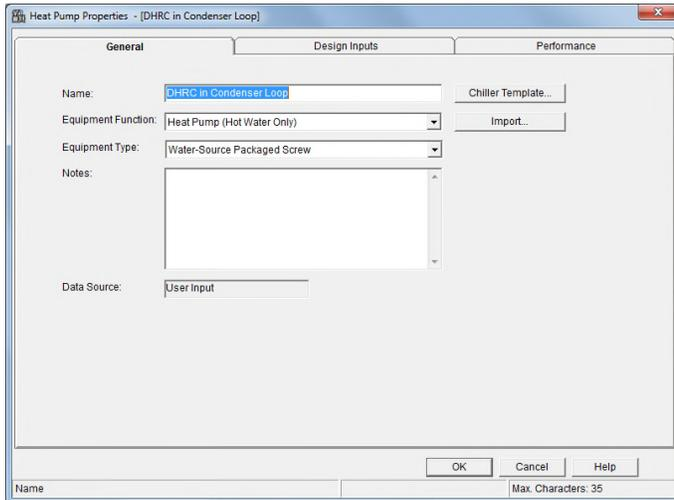

Figure 4.
- On the General Tab (Figure 4) specify the Equipment Function as “Heat Pump”. Because the DHRC machine is operated in heating priority it qualifies as a water-to-water (W2W) heat pump rather than a chiller. After selecting the Equipment Function, choose the equipment type. Figure 4 shows an example where a water source screw compressor machine is used.